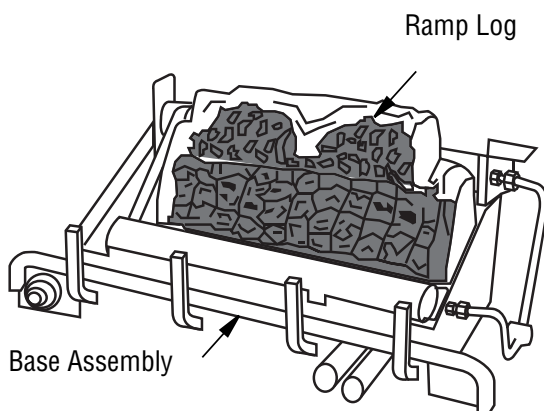

Figure 23 - Installing Log Set
1. Place fiber ramp-log in center on chassis as shown in **Figure 23**. The fiber ramp-log can be identified by its shape and much lighter weight when compared to the other logs.